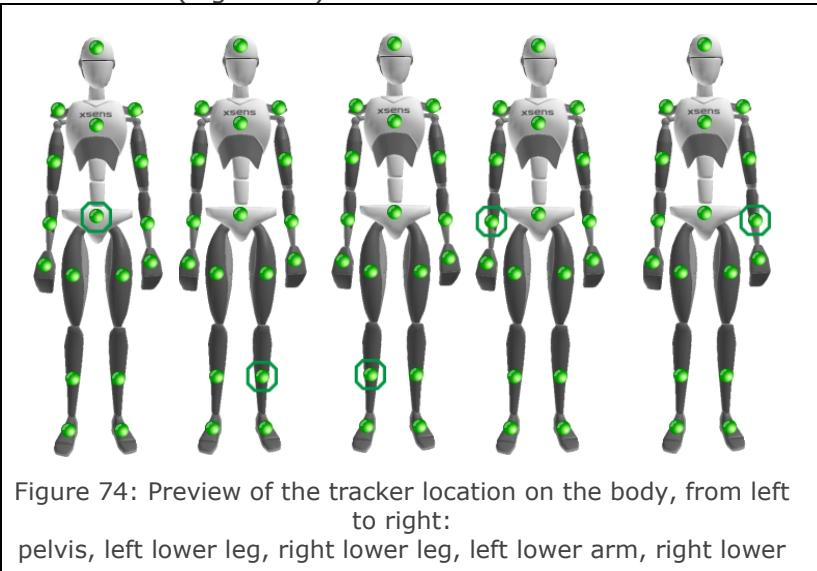

Figure 74: Preview of the tracker location on the body, from left to right:
6. Select the location on the body where the tracker is placed at the Location drop down menu. (Figure 74)